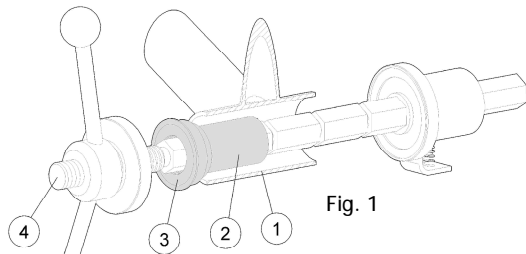

Fig. 1
1. Ensure that Bottom Bracket (BB) shell ① is clean and free of metal chips, dirt, and excess paint.
2. Install only one bearing cup in the BB shell at a time to avoid damage to the plastic center sleeve ②.
3. Place Bearing cup ③ with plastic sleeve ② on the press tool ④ (Fig. 1).